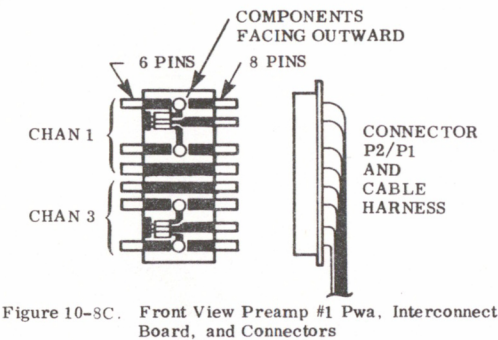

Figure 10-8C. Front View Preamp #1 Pwa, Interconnect Board, and Connectors
- c. Install the replacement preamplifier No. 1(s) into the preamplifier harness assembly connector (8 pins into the harness connector). See Figure 10-8C.